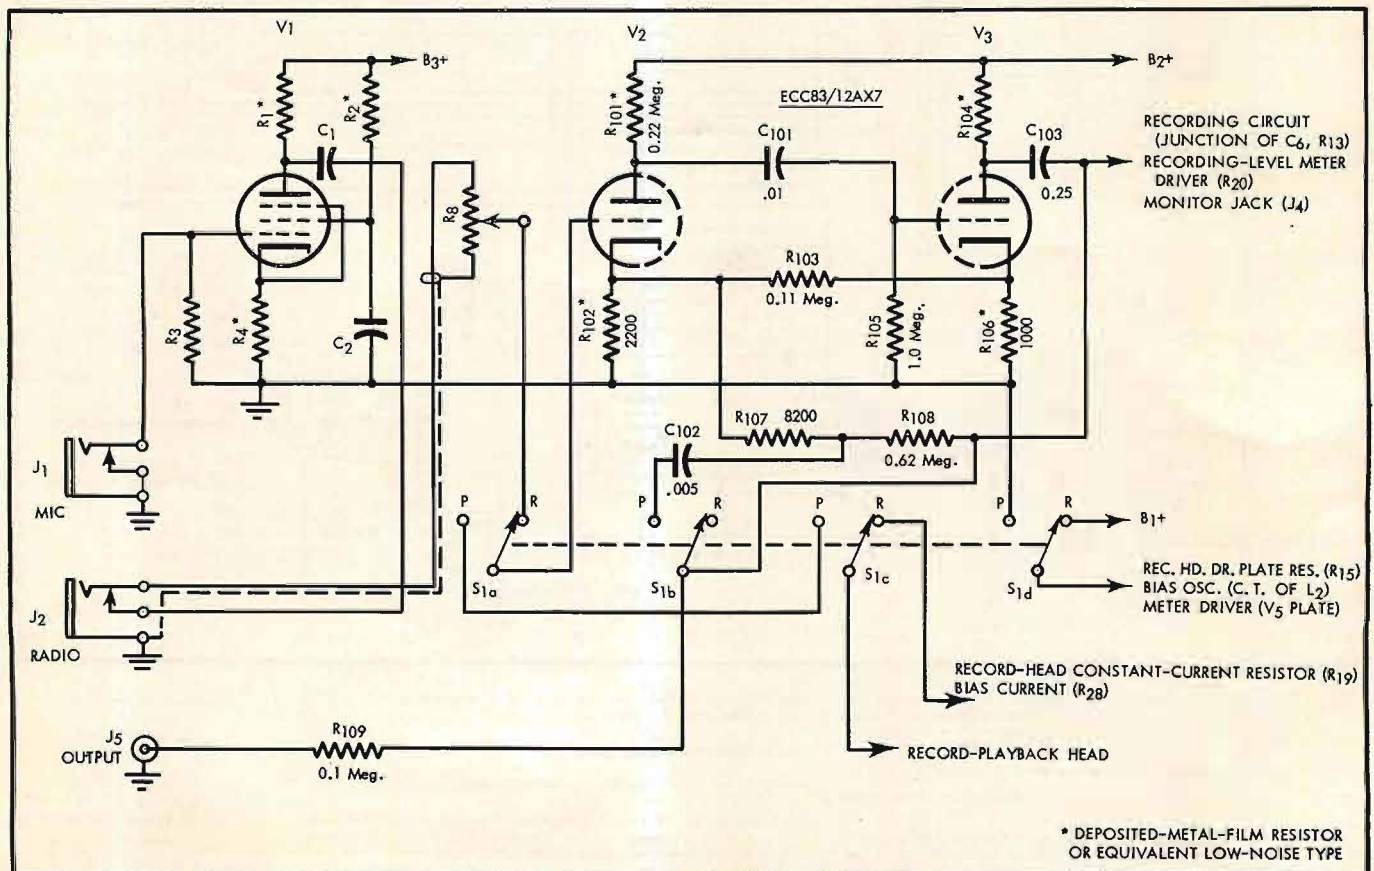

Fig. 2. When the amplifier is converted as described, it results in this arrangement.
The Brush BK-1090 record-playback half-track head was used. It is of laminated-core construction, which minimizes eddy current losses; has a nominal .00025 in. gap, permitting good response to 15,000 cps at 7.5 ips; and has two coil windings, which are hum cancelling when properly connected in series or parallel for the audio signal. It was found that the Brush BK-1090, with its windings in series for maximum playback signal, had greater drive requirements than the Dynamu head, so that more voltage gain was required in recording. Therefore  $V_3$  was converted from a cathode follower into a voltage amplifier stage, as shown in Fig. 2; at the same time, equalization was changed from lossy to feedback type, as will be discussed later in more detail.
Originally the plate of  $V_5$  was permanently connected to  $B_1+$  so that the meter would operate in record as well as playback. This permitted comparison of playback levels among various tapes and enabled one to correlate audible distortion with recorded signal level. Unfortunately, if a signal were fed into the amplifier for recording purposes but switch  $S_1$  was left in the playback mode, the meter gave an indication as though everything were set for recording. For this reason the writer accidentally failed on a number of occasions to obtain a desired off-the-air recording. Therefore it was decided to obtain  $B+$  for  $V_5$  from the same point as the  $B+$  supply for the record-head driver  $V_4$  and the oscillator  $V_6$ , which are connected to  $B+$  only in the record mode. This point is the arm of  $S_{1d}$ , as shown in Fig. 2.
The circuit revisions in Fig. 2 meet the following objectives: (1)  $V_3$  is converted from a cathode follower to a voltage amplifier to provide the greater gain needed in recording. (2) Output impedance is kept low through negative feedback, thus maintaining high-frequency response and permitting a reasonably long run of cable between the tape recorder and the next component in the audio chain for playback (usually a control amplifier). (3) The volume-control setting does not affect playback equalization; in the original circuit, which employed a lesser type of bass-
One of the problems in using feedback to obtain an equalization curve with a large amount of bass boost, such as the NARTB curve requires, is that at low frequencies the curve tends to lose its accuracy. That is, gain at the low end no longer varies exactly in inverse proportion to the amount of feedback. The feedback factor (ratio between gain without feedback and gain with feedback) is  $1 + AB$ , where  $A$  is gain before feedback and  $B$  is percentage of output voltage fed back. At high frequencies, the quantity  $AB$  is much greater than 1, so that the feedback factor consists largely of  $AB$ ; since  $A$  is a constant, it can be said that the gain ratio varies essentially with changes in  $B$ . At low frequencies, however,  $B$  is very small, and the quantity  $AB$  begins to approach 1. Therefore the value 1 can no longer be ignored in the expression  $1 + AB$ . And the response curve no longer varies exactly with changes in  $B$ . In order to keep the quantity  $AB$  significantly higher than 1 (at least four times as great) and thus produce accurate equalization, it would be necessary to increase  $A$ , that is, gain before feedback. This can be done by positive feedback. The 0.11-meg resistor  $R_{103}$  in Fig. 2 produces several db of positive feedback for this purpose.
Having to insert and remove the phone plug continually proved to be a nuisance. Therefore the revised switching arrangement of Fig. 2 was used, which enabled the phone plug to be left in  $J_2$  during playback.  $V_1$  is now permanently connected to the microphone input jack  $J_1$ . Only  $V_2$  and  $V_3$  are used for playback; more will be said about this shortly. In playback, the volume control  $R_8$  and the input jack  $J_2$  are disconnected from the circuit by  $S_{1a}$ . Prior to this change, the gain control had always been left in maximum position during playback. Since the change, the lack of command over playback gain at the recorder (gain is governed by the control amplifier) has caused no inconvenience.
circuit. In the circuit of Fig. 2, however, deposited-metal-film resistors are used for noise reduction. These can be virtually as noise-free as wirewound resistors and about one-third as expensive, costing about one dollar each. Moreover, wirewound resistors have some residual inductance, although wound in a manner designed to cancel inductance. This may lead to pickup of hum or possibly to pickup of the audio signal and consequent positive feedback and oscillation in a high-gain circuit.
In Fig. 2, deposited-metal-film resistors are used as the plate and cathode resistances for  $V_1$ ,  $V_2$ , and  $V_3$ . Prior to use of metal-film types, deposited-carbons had been tried for  $V_2$  and  $V_3$  as well as  $V_1$ . But each time a metal-film resistor was substituted for a deposited-carbon one, there was a striking improvement, even in late stages. This is not to say that all deposited-carbon resistors are inferior to metal-film ones. In fact, the writer has been given to understand that there are some deposited-carbon resistors of foreign make which have excellent noise characteristics, closely approaching those of wirewounds. However, his personal experience with American-made resistors has been that deposited-metal-film ones have given far
Fig. 2. Complete schematic of transistor tester.  $R_1$  may be a special 10-turn potentiometer, used with a 15-turn dial, although a single-turn four-watt type of pot may be used instead.
Having established the relationships which govern the operation of this circuit, a practical form of it can be designed as in Fig. 2.
A 500-ohm potentiometer ( $R_2$  in Fig. 2), is used to adjust  $R_{min}$  to its exact value.
The rest of the circuit is designed so that any transistor inserted in the test instrument will operate at approximately 6 volts collector voltage and approximately 1 ma emitter current. Switch  $S_2$  is included so that either PNP or NPN units can be tested, and switch  $S_3$  changes the dial reading from "times 1" to "times 2." One word of caution: check to see that the transformer is wired with the same phasing shown in Fig. 2—otherwise the circuit will not oscillate. To keep the instrument as simple and inexpensive as possible, no detector or meter was incorporated in the circuit. Any detector, such as earphones, VTVM, or oscilloscope can be used to detect when oscillation just starts.